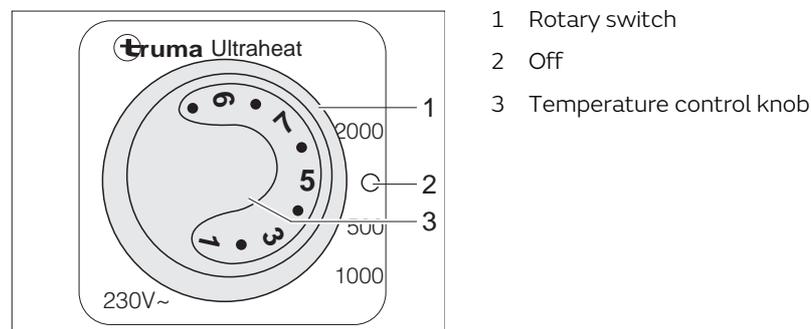

Fig. 118 Operating unit for Ultraheat additional electric heater
- Turn the rotary switch (Fig. 118,1) to the desired output level (500, 1000 or 2000 W).
- Turn the temperature control knob (Fig. 118,3) to the desired output level.
- Set the rotary switch (Fig. 118,1) to "0" (Fig. 118,2).